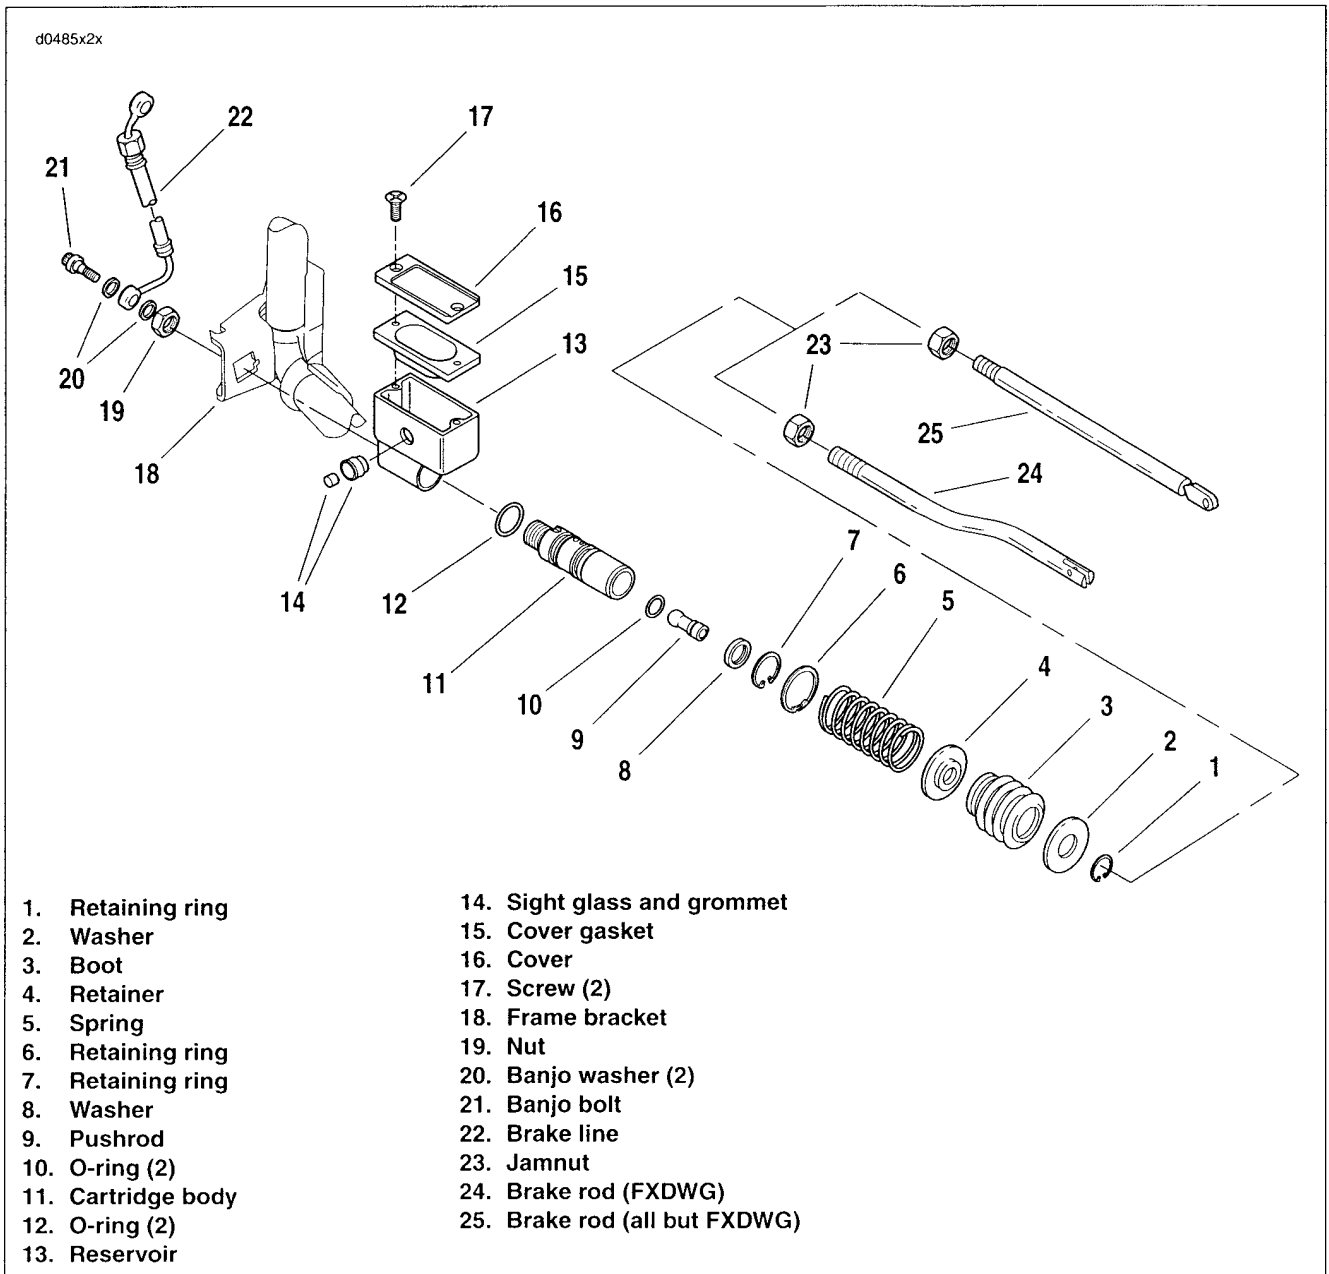

Figure 2-69. Rear Brake Master Cylinder
1. See Figure 2-69. Remove banjo bolt (21) and banjo washers (20). Discard washers.
2. Remove master cylinder mounting nut (19).
3. Loosen jamnut (23) on threaded brake rod (24/25).
4. Unscrew push rod (9) from brake rod.
2. See Figure 2-69. Thread banjo bolt (21) into the cartridge body (11).
3. Remove boot (3) from groove in master cylinder/reservoir (13). Set master cylinder/reservoir upright with banjo bolt resting on bench and push master cylinder/reservoir down and off the cartridge body.
5. Press down on large washer (2) to compress spring (5), keep spring compressed and remove retaining ring (1) from groove in push rod (9).
6. Carefully release spring and remove washer, boot, spring retainer (4) (inside boot) and spring.
7. Remove and discard retaining ring (7) from bore of cartridge body and remove push rod and washer (8).
2. See Figure 2-69. Inspect reservoir bore (13) for scratches. Replace if scratches are present.
3. Check boot (3) for tears and replace if any exist.
4. Inspect threads on cartridge body (11), push rod (9) and banjo bolt (21). Replace any part with damaged threads. Inspect spring for cracks or broken coils – replace if any exist.
5. Carefully remove large O-rings (12) from cartridge body. Do not scratch O-ring grooves. Clean grooves with soft cotton cloth moistened with alcohol. Inspect grooves for scratches and dirt. Remove dirt or replace cartridge body if grooves are scratched.
1. See Figure 2-69. Lubricate O-rings (12) with D.O.T. 5 brake fluid and install in O-ring grooves on cartridge body (11).
2. Lubricate bore of master cylinder/reservoir (13) with D.O.T. 5 brake fluid.
4. Thread banjo bolt (21) into cartridge body and stand master cylinder upright with banjo bolt resting on bench.
5. Place washer (8) on push rod (9).
6. Place a **new** retaining ring (7) on push rod. Insert ball-end of push rod into piston. Push piston downward with push rod until washer is properly seated in the cartridge bore.
9. Install retaining ring (6) in groove on cartridge body.
10. Install on push rod, spring (5), spring retaining washer (4) (large cupped side toward spring), boot (3) with drain hole down, and washer (2).
11. Press down on washer and install retaining ring (1) in push rod groove.
1. See Figure 2-69. Guide threaded end of master cylinder/reservoir (13) through hole in bracket (18). Make sure the square body of the master cylinder/reservoir is engaged in the square hole of the mounting bracket.
2. Install nut (19) and tighten to 40-50 ft-lbs (54.2-67.8 Nm).
3. Thread push rod (9) fully onto brake rod (24/25). Do not tighten jam nut (23).